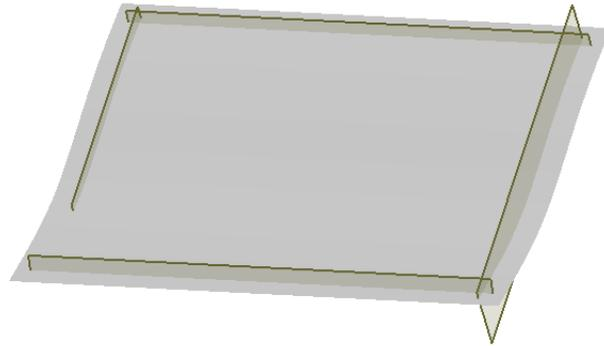

Figure 2–64
1. Open **MODEL_SETUP_C.prt**. The model displays as shown in Figure 2–64.